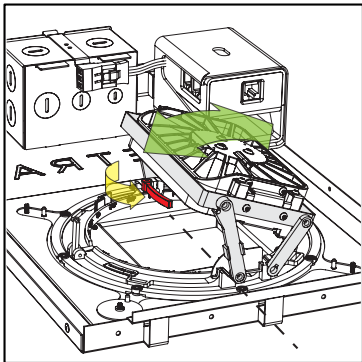

fig. 5
- c. Unlock the tilt lock by pulling it toward the fixture aperture. The tilt lock is the red, horizontal lever to the right or left side of the emitter chassis body. (see fig. 5)